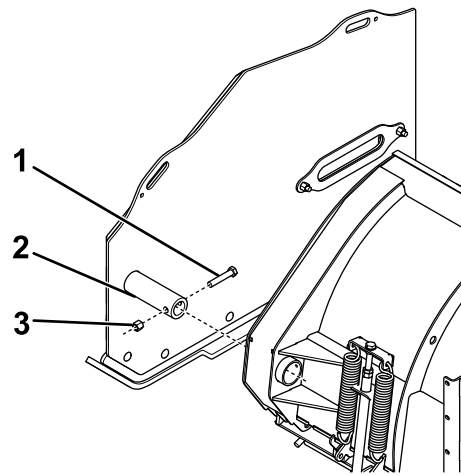

Figure 5
2. Apply grease to the pivot tubes on each of the plow wings (Figure 5).
3. Slide the plow wing pivot tubes onto the plow and secure them with a bolt (3/4 inch) and locknut (Figure 5).